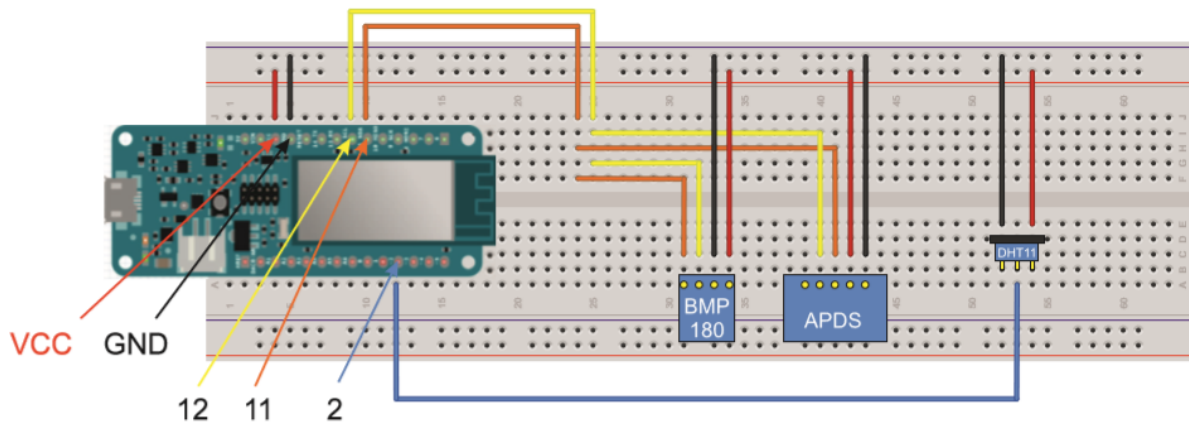

Figure 7. Connection step 4
2.1.4. Connection step 4 (Figure 7):